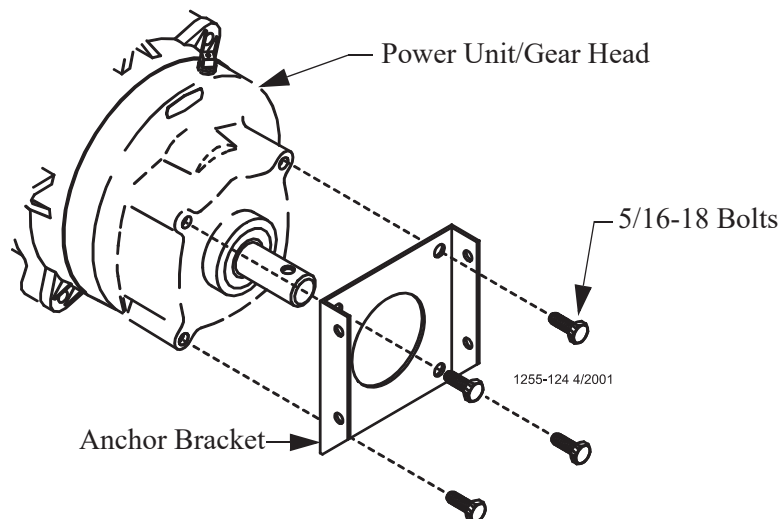

Figure 40. Assemble the Anchor Bracket to the Power Unit/Gearhead
3. Install the Anchor Bracket to the Power Unit/Gearhead, as shown in **Figure 40.**, with the included 5/16-18 Bolts.